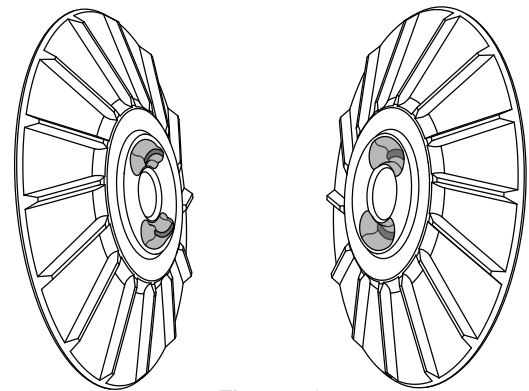

Figure 10
5. Slide on the unthreaded half of the new V-Pulley, then slide on the threaded half and tighten it by rotating counterclockwise. Before the final few rotations of the threaded side, adjust the unthreaded half so the grooves accept the bumps from the threaded half to sit flush. (Fig. 10) Tighten until secure.